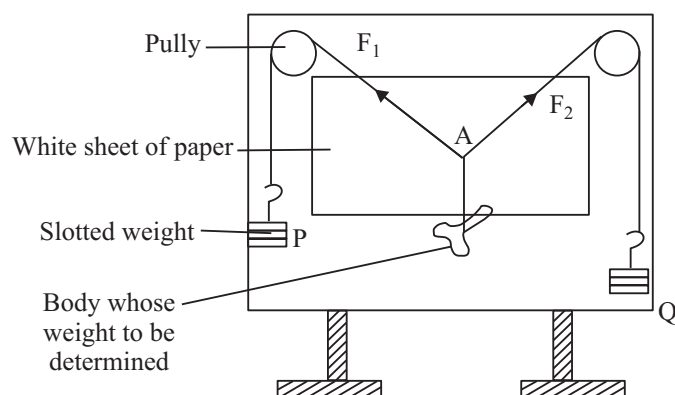

Fig 5.4: Gravesand's apparatus
- (i) Set up the Gravesand's apparatus with its-board vertical and stable on a rigid base. Check this with the help of a plumb line (Fig. 5.4).